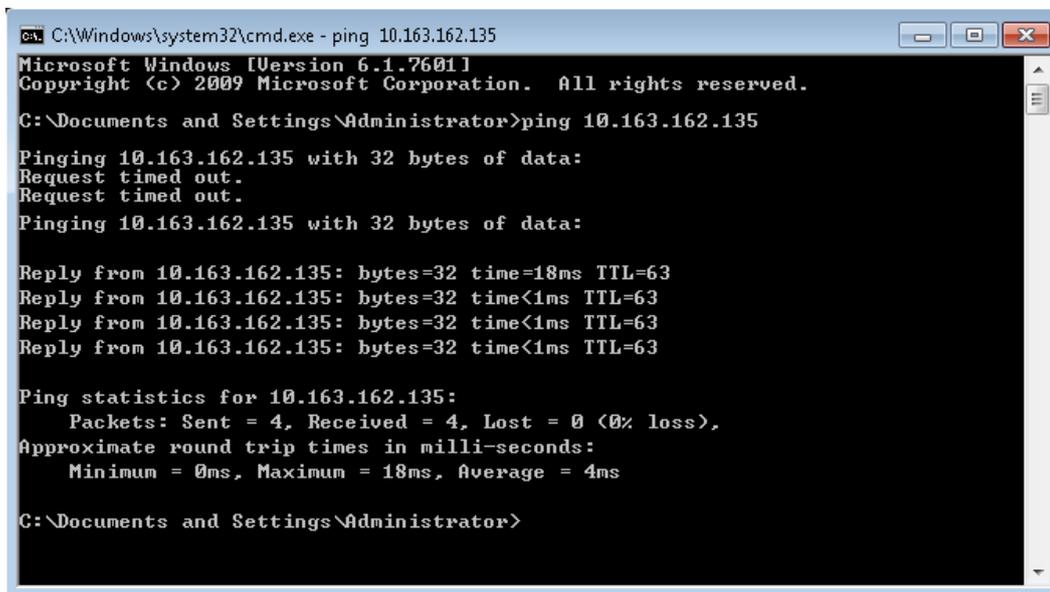

Figure 7-2 Communication test
2) Press the Enter key, the page shown in Figure 7-2 pops up. Type 'ping' and IP address in the command line (for instance, 'ping 10.163.162.135') and check whether the communication is successful.